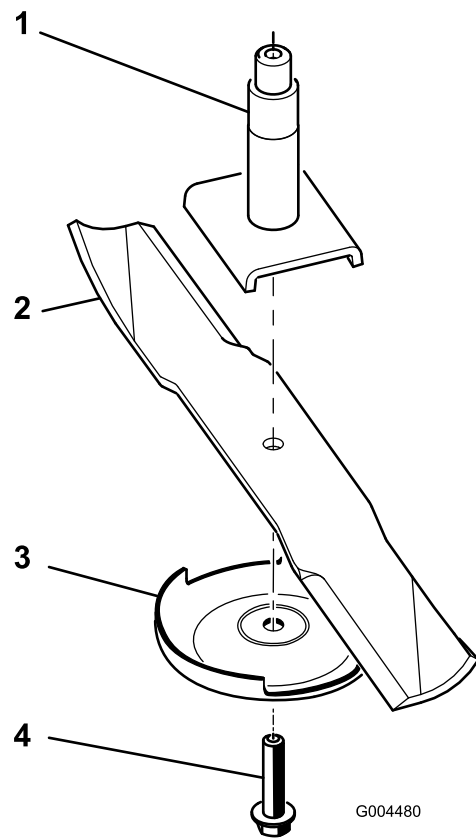

Figure 77
Note: If the blade stays in a horizontal position, the blade is balanced and can be used. If the blade is not balanced, file some metal off the end of the sail area only (Figure 77). Repeat this procedure until the blade is balanced.
1. Install the blade onto the spindle shaft (Figure 77).
2. Install the anti-scalp plate and blade bolt (Figure 77).